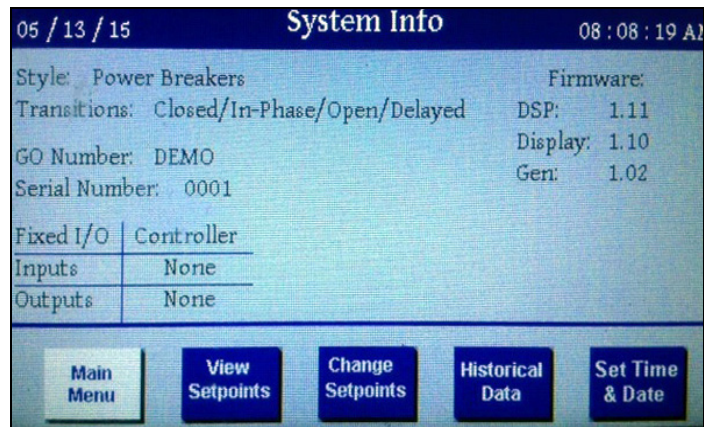

Figure 7b. System Info Screen.
8. System Info (Figure 7b)
There are deeper menus (ie, Prog I/O) but they will be discussed in sections 5 and 7. Section 5 is "Setpoint Programming and I/O Programming". Section 7 is "Historical & Event Display". Figure 7b shows the System Info screen. System information is shown including the GO#, Style number, and revisions. The Set Time & Date button provides time/date change..